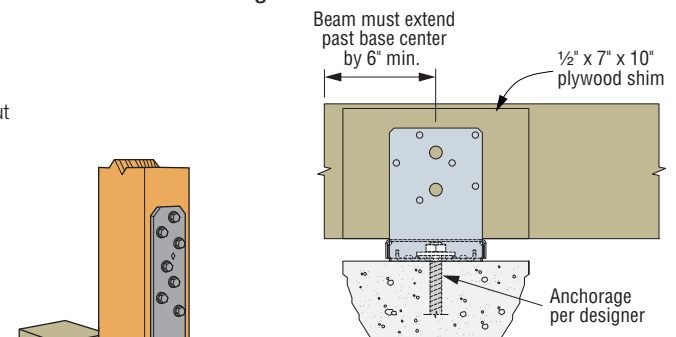

Figure 4 — ABU with Beam Installation
- For applications involving the use of a post base to support a wood beam, refer to p. 68. (Figure 4)